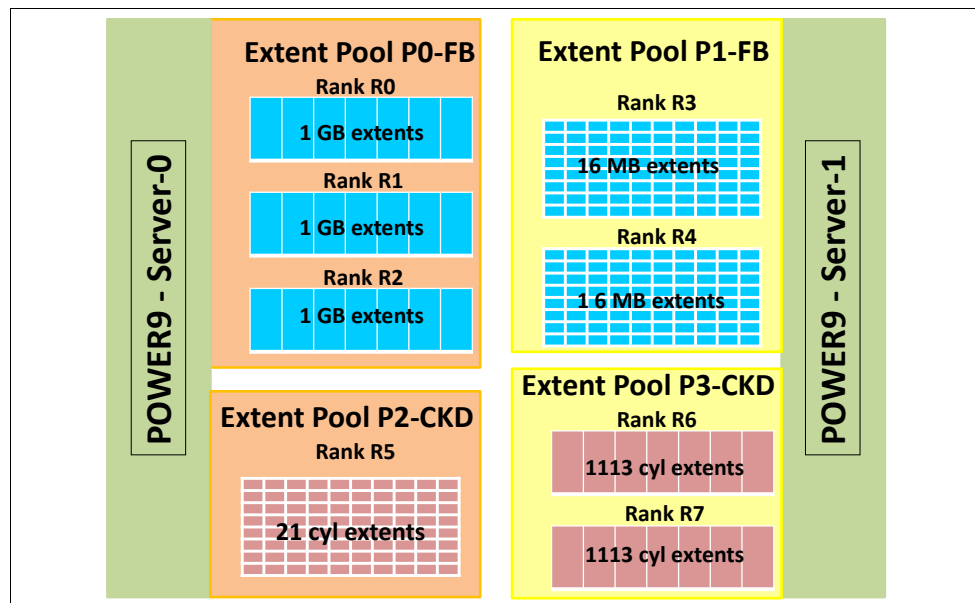

Figure 3-3 Extent pools
- ▶ The capacity of the array is subdivided into partitions, which are called *extents*. The extent size depends on the *extent type*, whether FB or CKD. The extents are the building blocks of the logical volumes. An extent is striped across all drives in an array, and it is represented by the small squares in Figure 3-3 on page 79.
Figure 3-3 shows an example of a mixed environment that features CKD and FB extent pools.